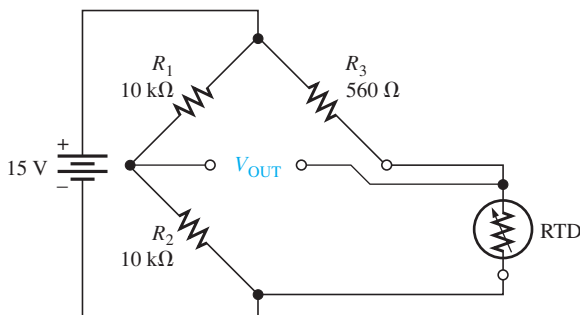

FIGURE 15-48
- At what resistance value of the RTD will the bridge circuit in Figure 15-48 be balanced if the wires running to the RTD each have a resistance of $10\ \Omega$?